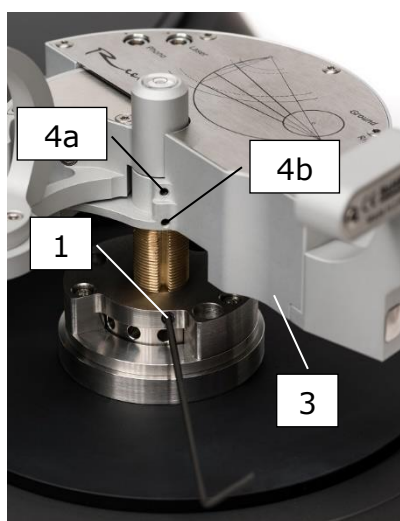

Figure 8
- g) Set tonearm body [3] in a position, that fixing screw of VTA adjuster [1] would be in the same line with two body fixing screws [4a] and [4b] (Figure 8).